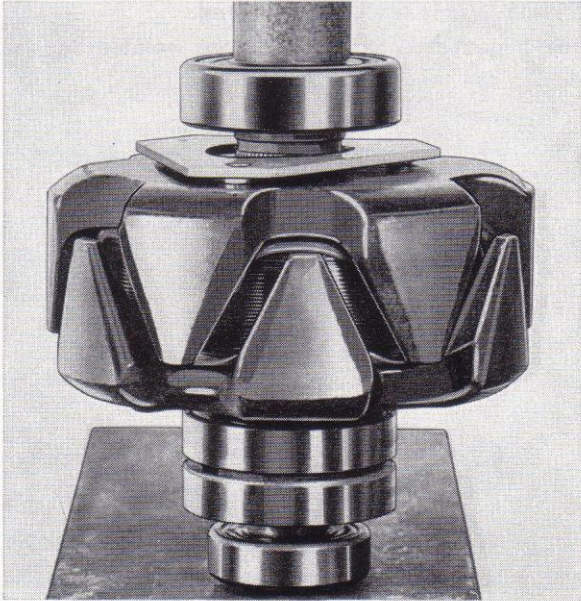

Fig. 36. Fitting the bearing
2. Press the bearing in with the help of a tubular sleeve which presses on the bearing inner ring, see Fig. 36.